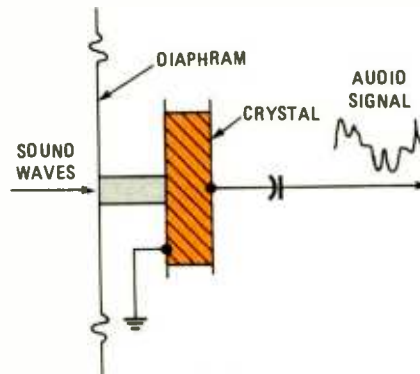

Fig. 2. In a crystal microphone, sound waves push the diaphragm into a piezoelectric crystal to produce voltage, which is then amplified.
**Crystal Microphones.** It has long been known that a Rochelle-salt crystal will change voltage into mechanical movement or mechanical movement into voltage. A microphone can be designed based on that piezoelectric effect of the crystal; see Fig. 2. As the sound waves cause the diaphragm to vibrate, pressure is applied to the crystal. An alternating output voltage is produced that follows the input sound waves. That type of microphone needs no external power supply and will produce a hefty output in the millivolt range. Crystals have a disadvantage because their output is affected by high temperature and moisture. However, research has found that certain types of ceramic materials also display the piezoelectric effect. Those can be used for making microphone elements that are not affected by temperature and humidity.